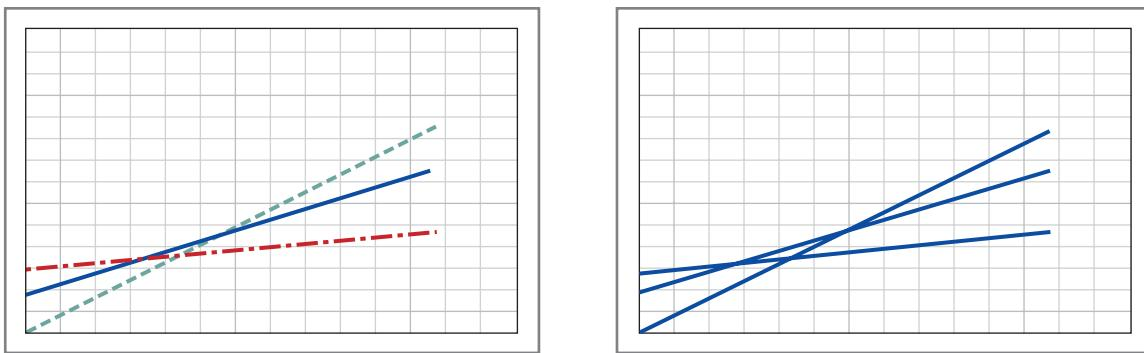

Figure 11-4 Example of importance of different line types.
- **Use a different symbol shape and color** for each experimental data set and a different line style and color for each theoretical data set. *Never use yellow and other light pastel colors.* Remember that when graphs are photocopied, all colored lines become black lines. Some colors disappear when copied and are hard to see in a projected image. For example, in Figure 11-4, left, it is much easier to distinguish between the different lines than in the figure on the right.